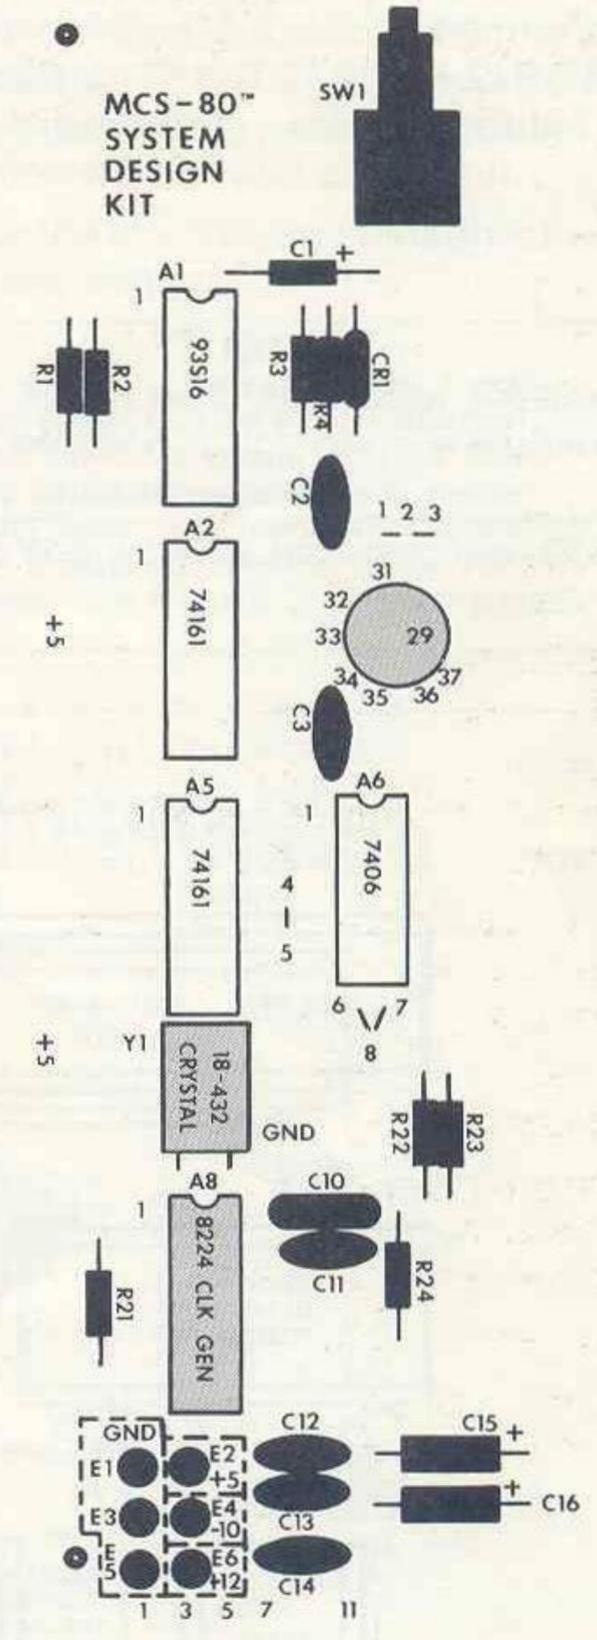

Figure 2-6. Construction Figure #4.
- ☑ Solder the 16-pin socket into location A8. You have now completed area one. Compare your board with Figure 2-6.